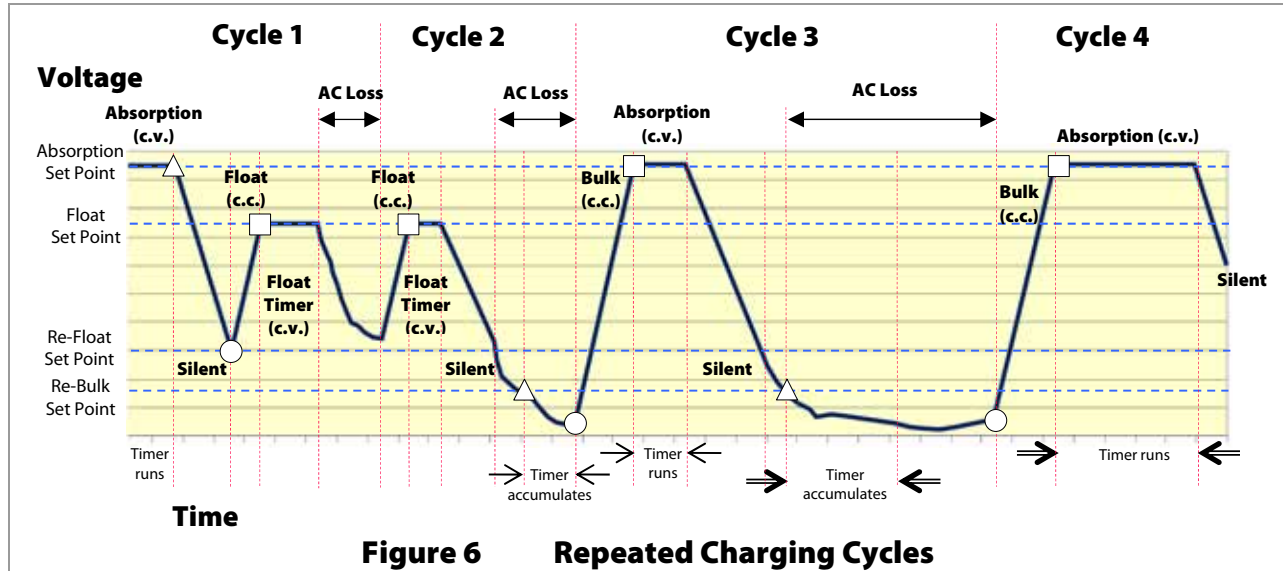

Figure 6 Repeated Charging Cycles
- In Figure 6 (Cycle 1), the charger initially completes Absorption. When the Absorption timer expires, the charger goes Silent until battery voltage decreases to the **Re-Float** setting. The Float timer is reset to its maximum. The charger enters Float and proceeds until it is interrupted by a loss of AC power.